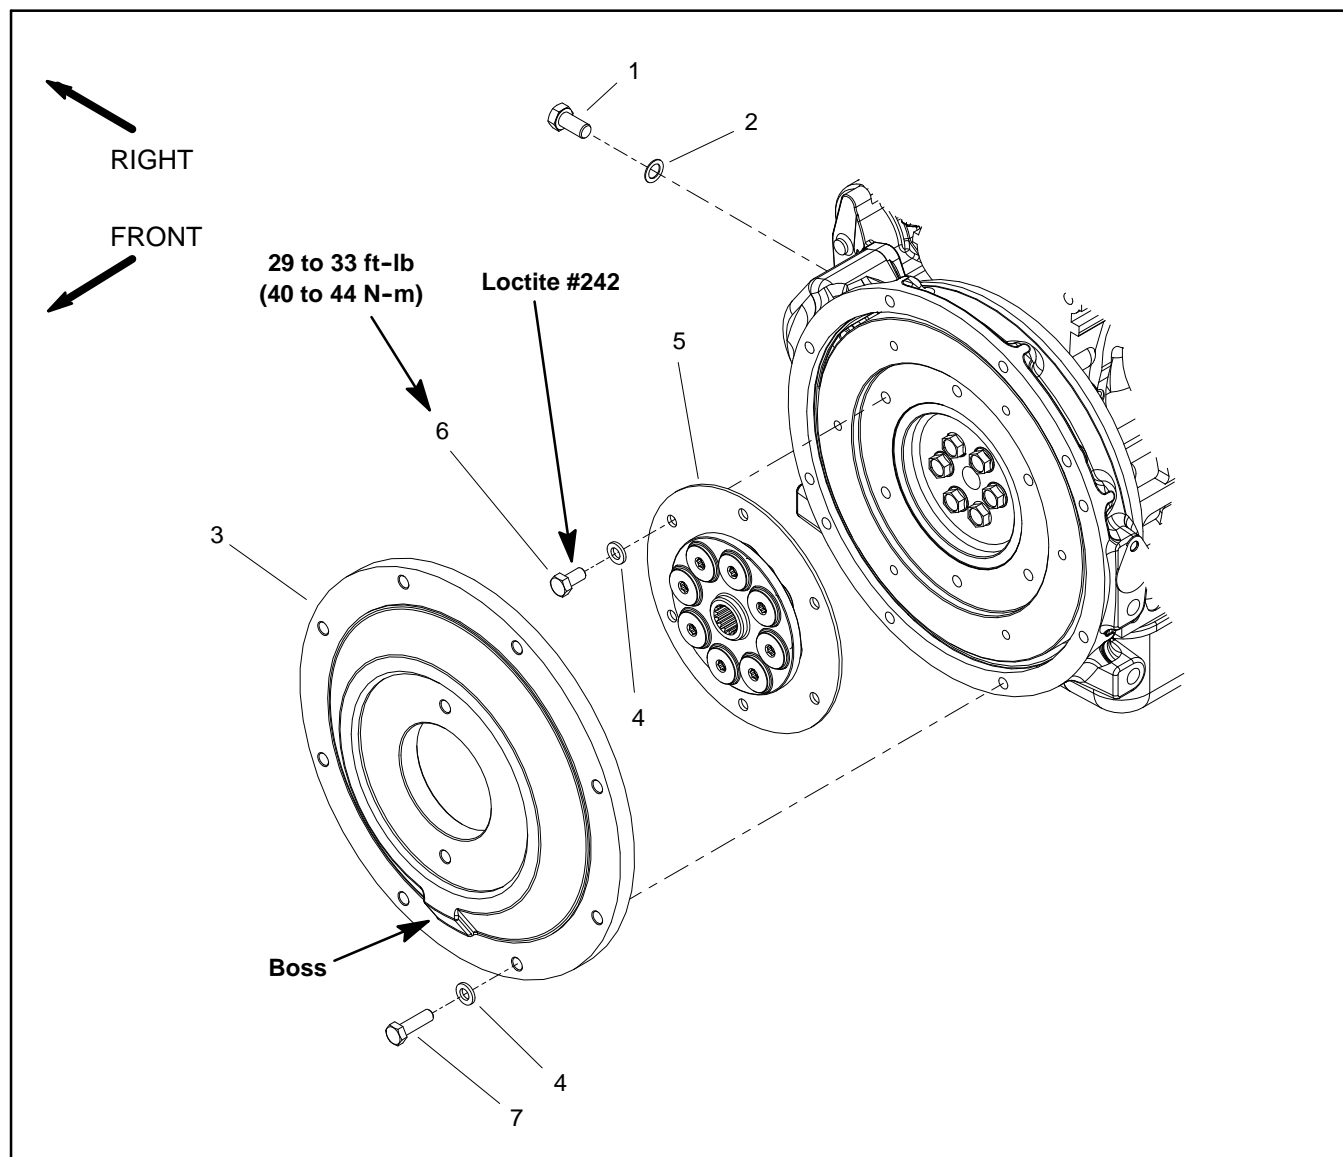

Figure 12
Coupler Removal (Fig. 12)
2. Remove flywheel plate and spring coupler from engine using Figure 12 as a guide.
Coupler Installation (Fig. 12)